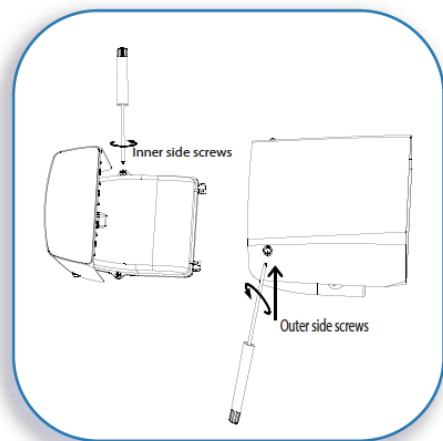

FIGURE 2
3. Tighten the inner side screws, close the housing, then tighten the outer side screws. (Figure 2).